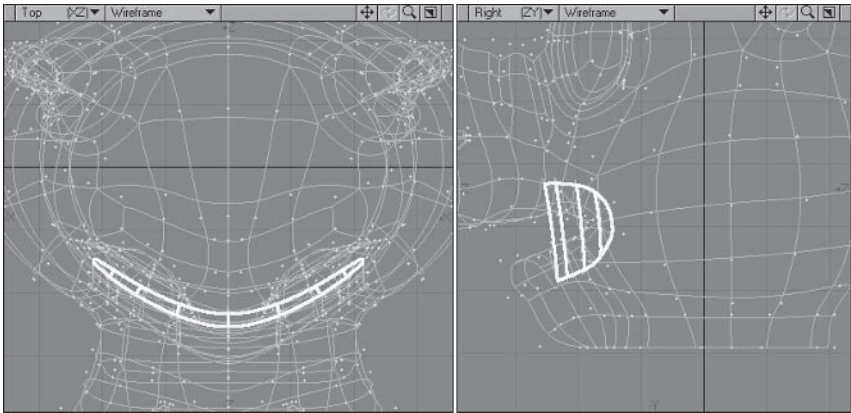

Figure 5.3-96. Make sure the top and bottom sets of points are evenly spaced, creating a nice curve from the Top view.
2. **Super Shift** in place, then from the Right view **Drag** the points to match Figure 5.3-96, creating the inside of the lips.